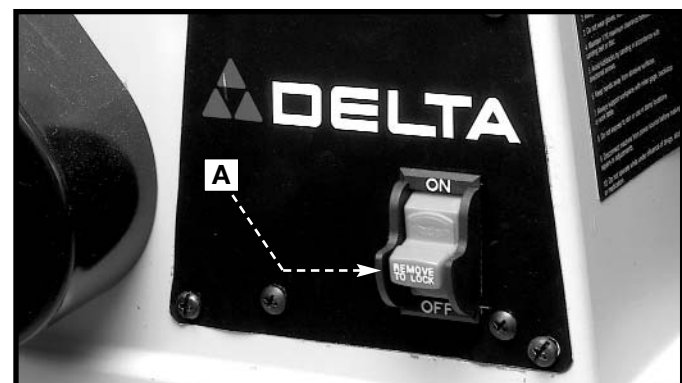

Fig. 16
The switch (A) Fig. 16 is located on the sander base. To turn the sander "ON", move the switch to the up position. To turn the sander "OFF", move the switch to the down position.